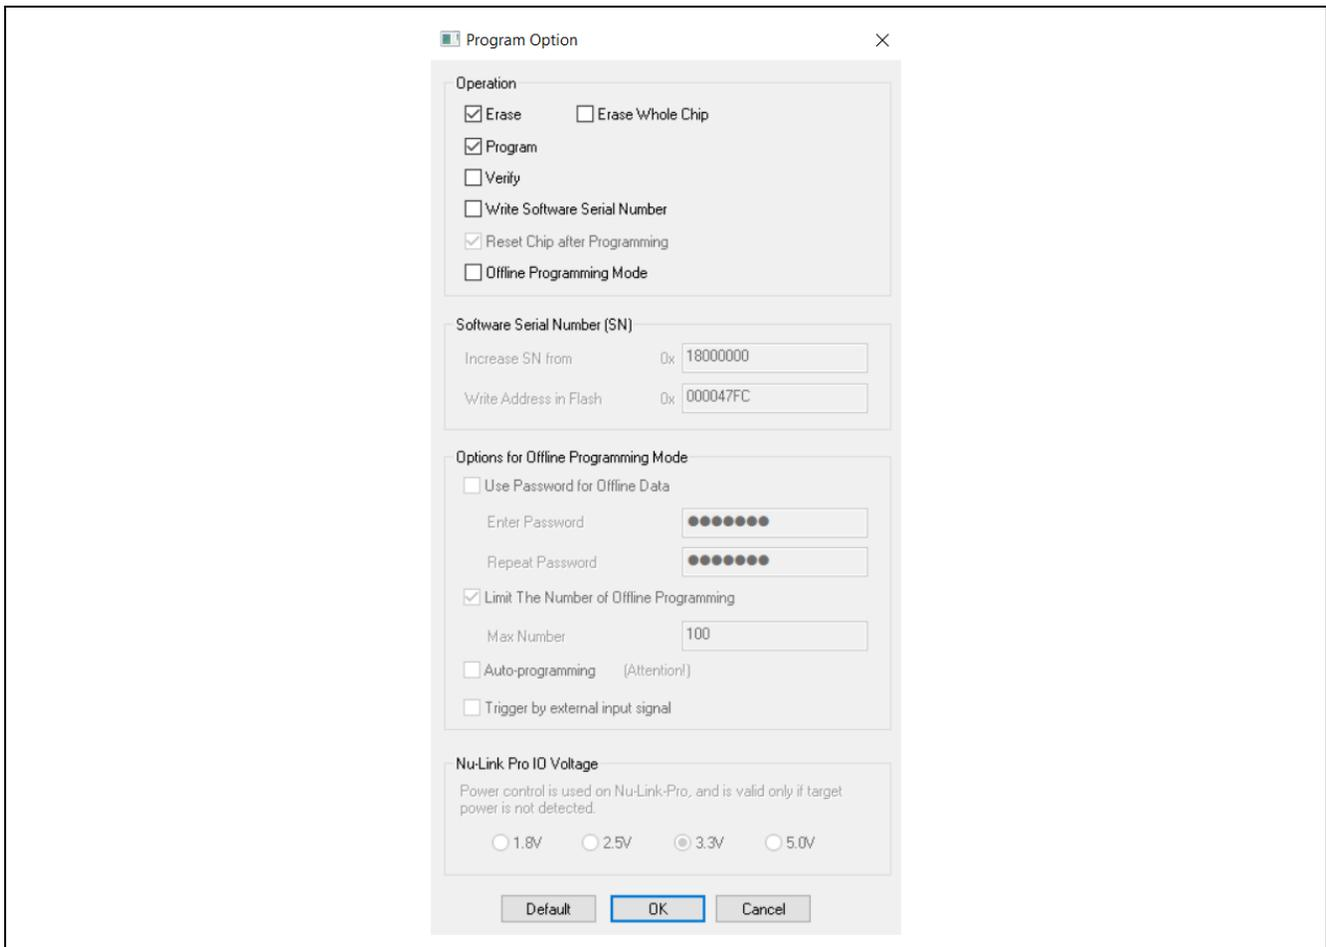

Figure 4-5 ICP Tool Program Option Form
- (6) Click **Option** in the **Programming** section of the ICP Tool Main Window to open the **Program Option** form, as shown in Figure 4-5.
- (7) In the **Nu-Link Pro IO Voltage** section, select the power voltage of the SWD port for the target chip, and then click **OK**. To use the offline programming function, the **Offline Programming Mode** option in **Operation** section should be selected, as shown in Figure 4-5.